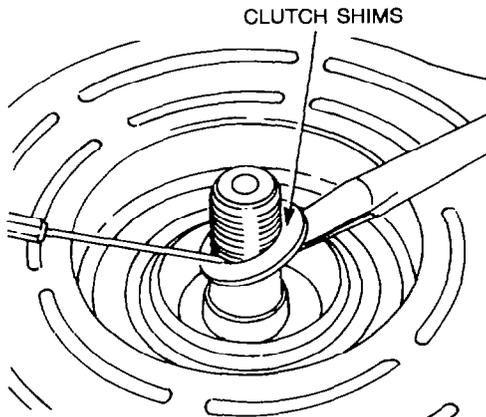

Figure 25 — Clutch Shims — Removal
- i. Using a small screwdriver, remove the clutch shims from the shaft (see Fig. 25).